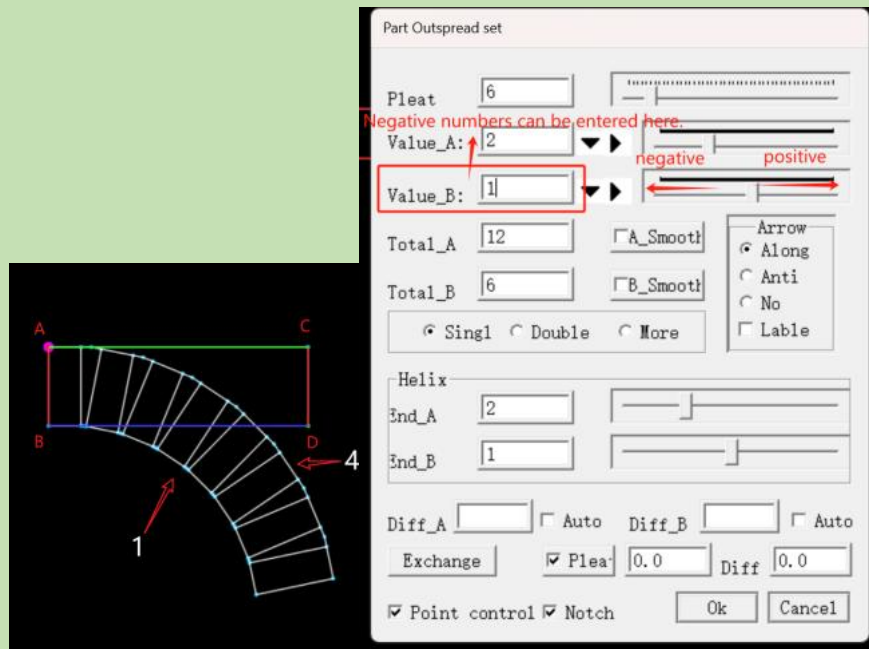

Figure4-98
8. Part Outspread: For the rectangle ABCD in the following figure, after selecting the uniform multiple pleats, find a fixed end (the AB end in the following figure). Left-click on AC (close to the A end) and BD (close to the B end) respectively with the mouse. Then left-click on the following moving line (the CD line), and right-click. After the dialog box pops up, set it according to your needs (for specific content, refer to the operation introduction of the special tool group), as shown in Figure 4-98.